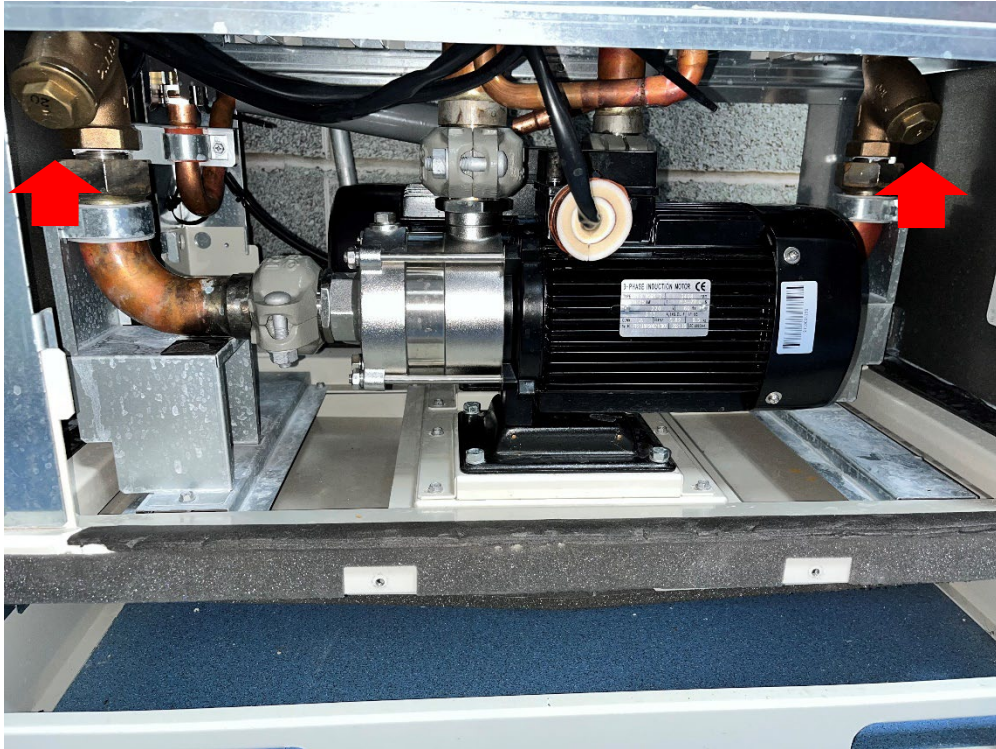

Fig. 9
15. Figure 9 shows the position of the two strainers.